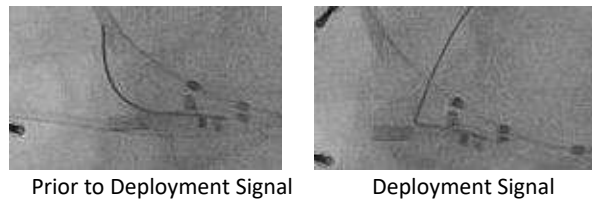

**Figure 11: TracCath positioned along Basal LV Free Wall**
27. Assess length of Implant – ie: number of Anchors to be implanted – along the free wall by counting the number of radiopaque markers from the distal end of the TracCath to the Guide tip, as depicted in **Figure 11**. The radiopaque markers on the Outer TracCath are spaced approximately every 11mm. The first marker is placed at the junction of the free wall and septum under P3. Then the number of Anchors to be implanted is determined by counting the number of radiopaque markers from the distal end of the TracCath to the Guide Tip. The number of markers corresponds to the number of Anchors of the Implant. **Figure 11** shows sizing for a 12 Anchor Implant. **Table 3** describes the nominal number of Anchors and AccuCinch Implant length corresponding to the TracCath markers.